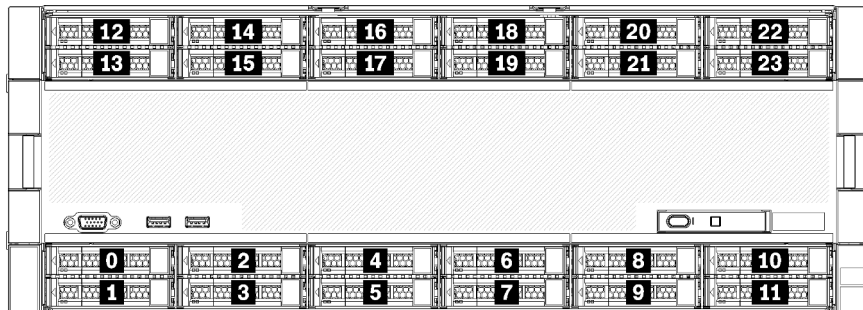

Figure 7. Drive bay locations
- Top two drives support SAS, SATA, or NVMe interface drives (Lenovo AnyBay). The server can support up to 12 NVMe drives, depending on the server configuration. The NVMe-capable drive bays are the even-numbered bays as shown in Figure 7 “Drive bay locations” on page 20.